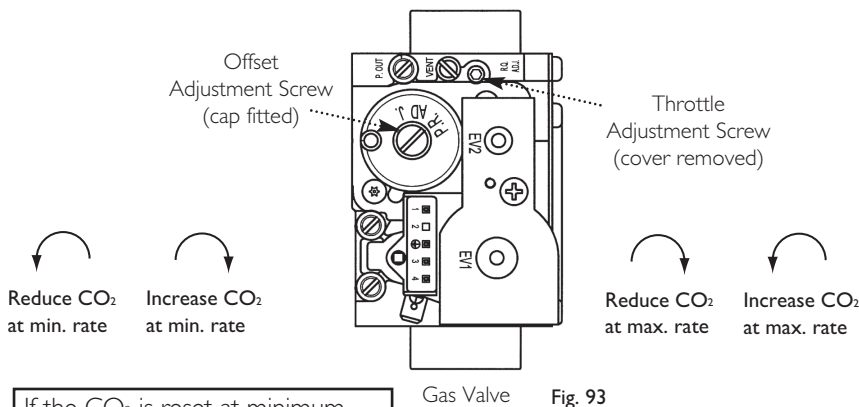

Fig. 93
8. It is possible to alter the CO₂ by adjustment of the gas valve. Remove the plastic cover from the Throttle Adjustment Screw. At maximum rate the Throttle Adjustment Screw should be turned, using a suitable hexagon key, until the correct reading is obtained (Fig. 93). Turning clockwise will reduce the CO₂. Anticlockwise will increase the CO₂.
10. With the boiler on minimum, the Offset Adjustment Screw must be altered, using a suitable hexagon key, after removing the cap (Fig. 93). Turning anti-clockwise will reduce the CO₂. Clockwise will increase the CO₂.